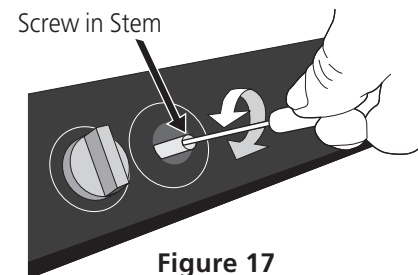

Figure 17
2. Adjust the "LO" or "SIMMER" Setting of Surface Burner Valves (see Figure 17)